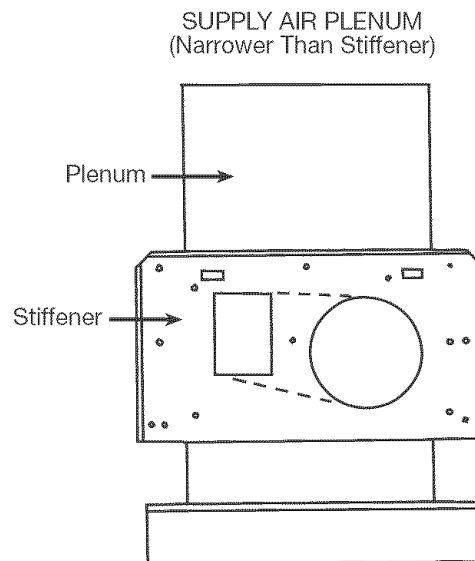

Fig. 8
The stiffener can be mounted on a plenum as narrow as 13½". The stiffener sides will extend past the plenum (Fig 8). Begin installation as follows:
- Mark outline of rectangle as shown in Fig 8.